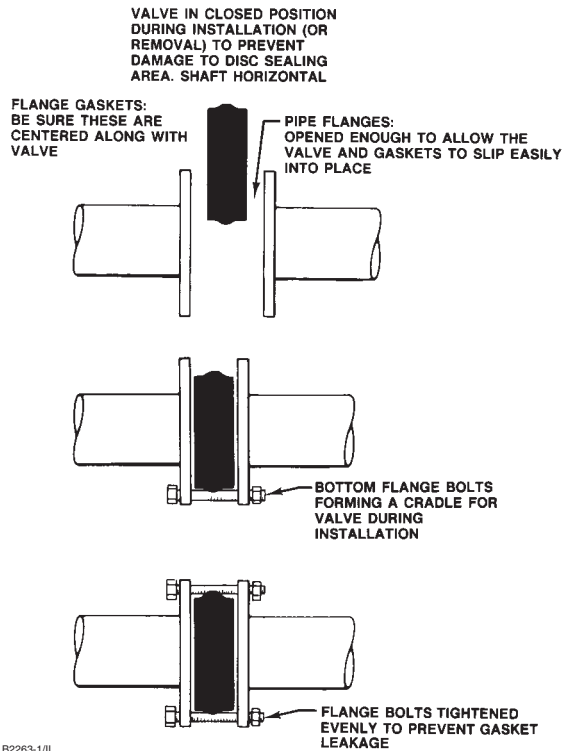

Figure 5. Proper Installation Steps
1. Refer to the actuator instruction manual to locate the actuator travel stop that controls the closed position of the valve disc (key 2). When adjusting the travel stop or travel, make sure that the disc is from 0 to 0.76 mm (0 to 0.030 inch) away from the internal stop in the valve body (see figure 5). This adjustment is necessary to be certain that the actuator output torque is fully absorbed by the actuator travel stop or by the actuator. The internal travel stop in the valve body should not absorb any of the actuator torque.
- **For Wafer-Style Valves:** Install the lower flange bolts first to form a cradle for the valve (see figure 5). See table 5 for flange bolt specifications.
2. Install the seal ring and O-ring assembly in the valve body. The wider outside diameter of the seal ring goes into the T-slot area of the body (see figure 5). Start the edge with the wider diameter into the T-slot of the valve body using a blunt-end screwdriver. If you have a maintenance kit, use the seal installation tools.